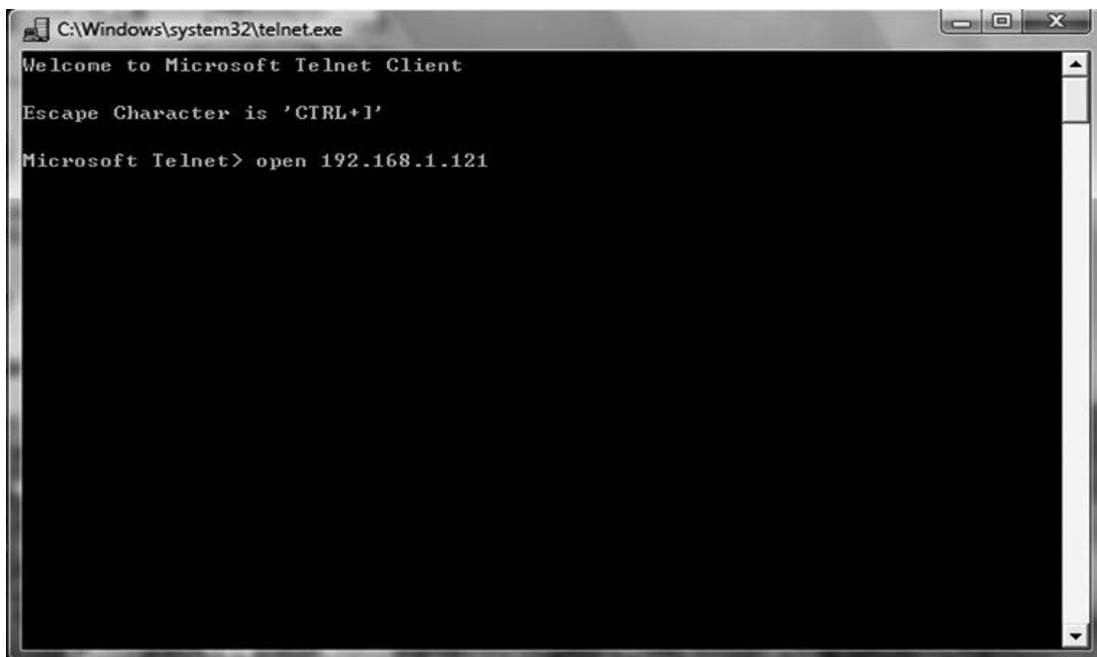

Figure 2-4
3.2.3.2. Enter the IP address as illustrated in figure 2-4